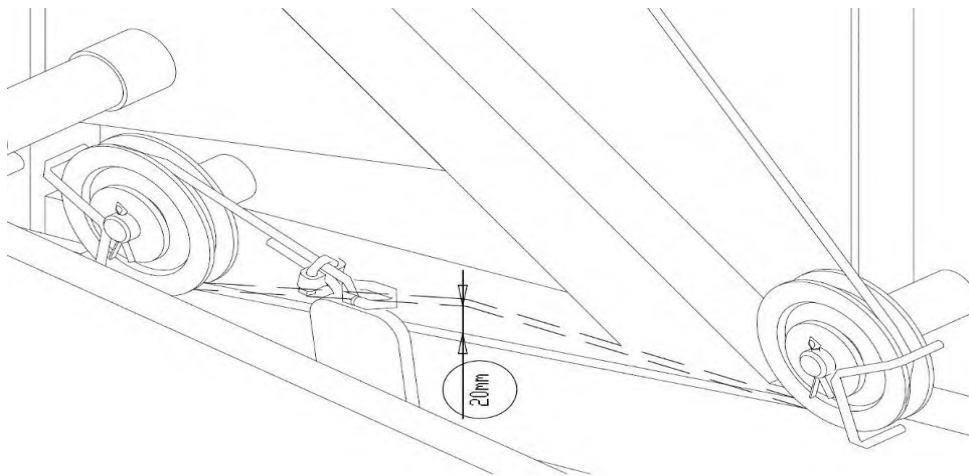

Figure 28. Straw collection - machine preparation
- The manufacturer's recommended maximum cord tension should be 20 mm, as shown in Figure 28